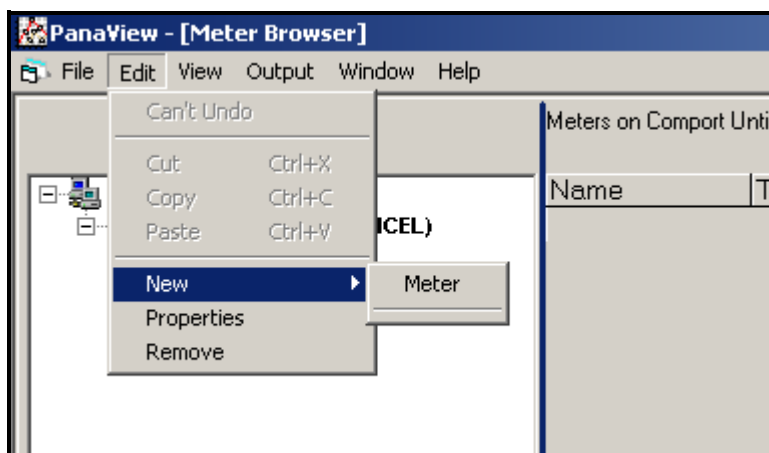

Figure 35: The Edit Menu
3. Click on the “New” option in the “Edit” menu (refer to Figure 35).